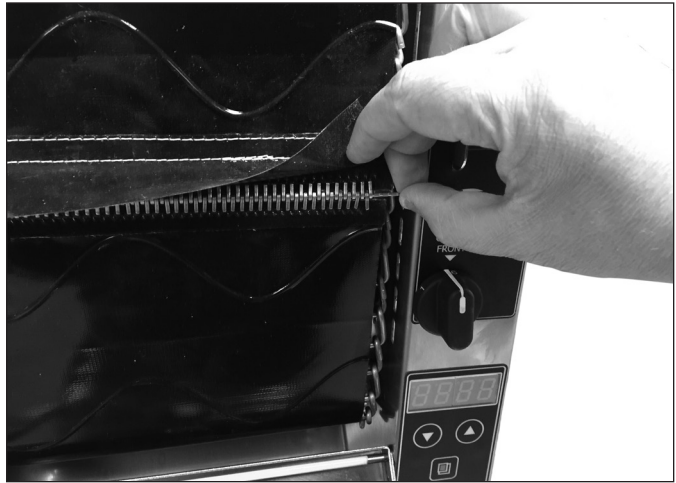

Figure 6. Installing Belt Wrap
3. Open both Conveyor Covers and pull the Belt Wrap Pin out of the zipper on each belt wrap (Figure 6).
7. Install the new Belt Wraps around the Conveyor Belt Chains inside the Support Rods with the zipper flap exposed and hanging down (Figures 6 & 7).